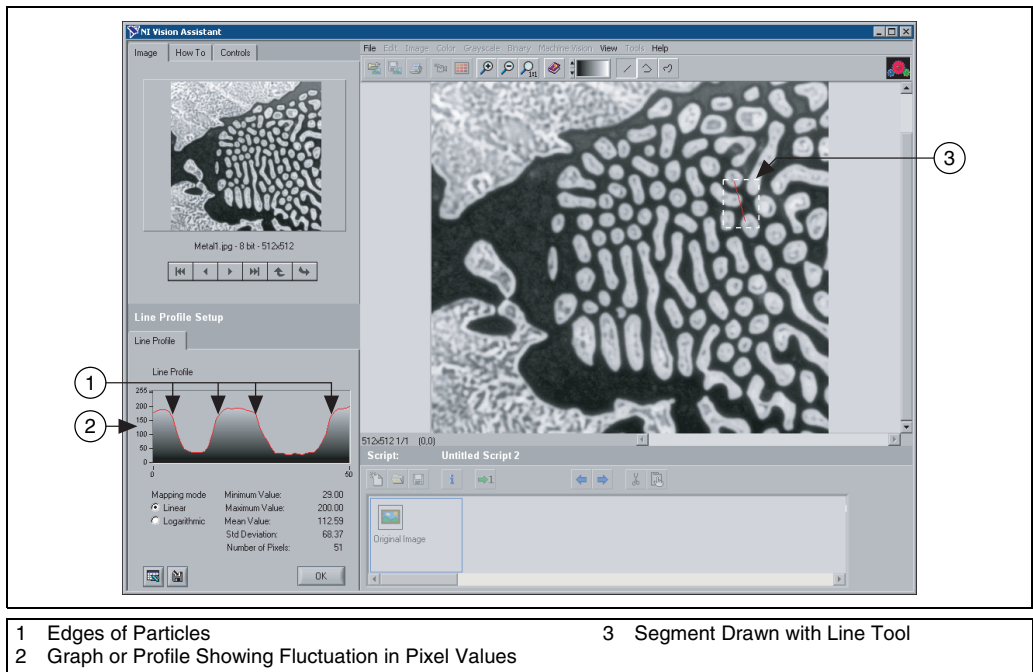

Figure 3-1. Using a Line Profile to Examine Edges
2. Draw a short segment across a particle, as shown in Figure 3-1.
In Figure 3-1, the areas labeled **1** represent the edges of the particles. Notice that the edges of both particles have a slope. The more shallow the slope, the greater variation you have in detecting the exact location of the edge. As you change the threshold level in images with shallow-sloped particle edges, you might inadvertently change the shape or size of the particle. In the *Filtering the Image* section of this chapter, you use the Convolution-Highlight Details filter under **Filters** in the **Grayscale** tab of the Processing Functions palette to define the edges of the particles and increase the slope.
The area labeled **2** in Figure 3-1 is a fluctuation in pixel values, which might be caused by brighter and darker pixels in the center of the particles or it might also be edges of a hole in the particle. Later, you will threshold the image to make all of the pixels in the particles the same pixel value and then perform a morphological operation on the image to fill any holes left in the particles.